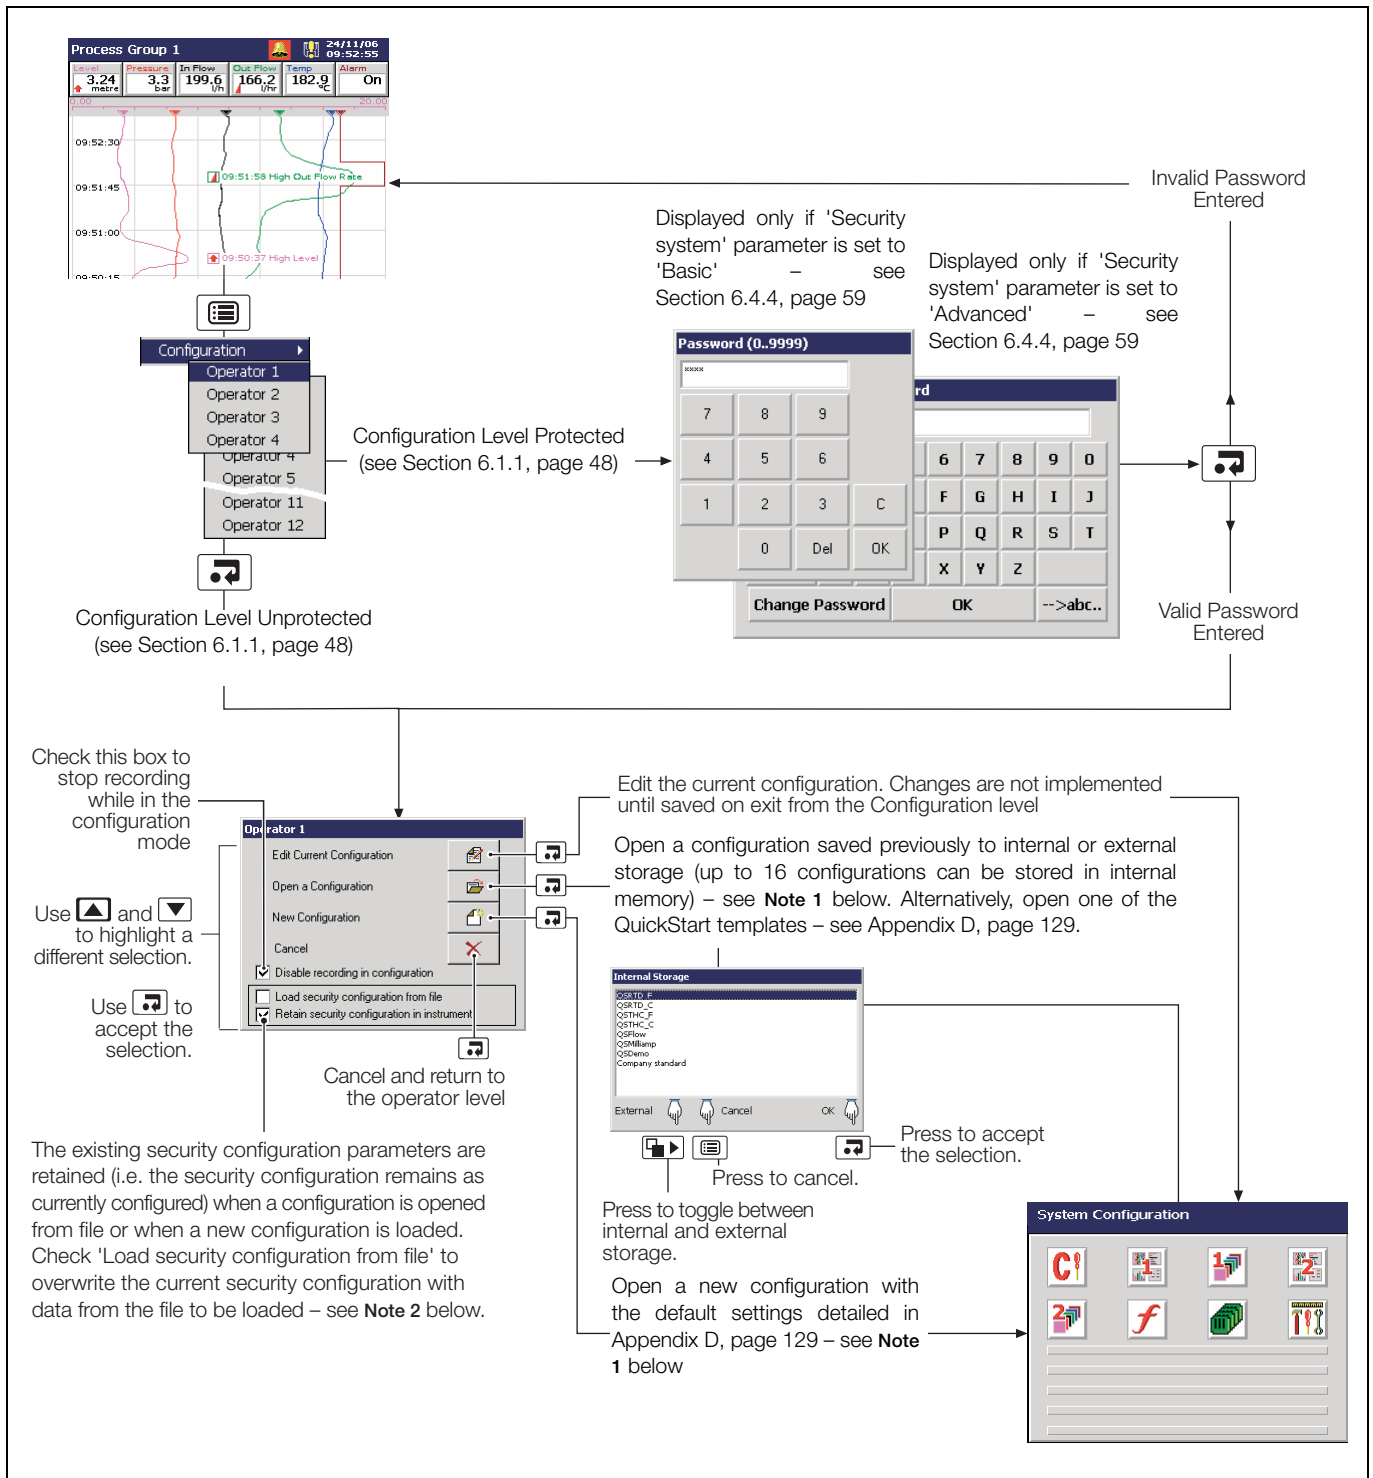

Fig. 6.1 Accessing the Configuration Level
The Configuration level cannot be accessed until the correct password has been entered – see Fig. 6.1, page 49.
- Access the Configuration Level – see Fig. 6.1, page 49.
- Make changes to parameters as detailed in Figs. 6.1 and 6.3.
- The date and time cannot be adjusted if recording is enabled during configuration, i.e the 'Disable recording in configuration' check box is **not** ticked on entry to the Configuration level – see Fig. 6.1, page 49.